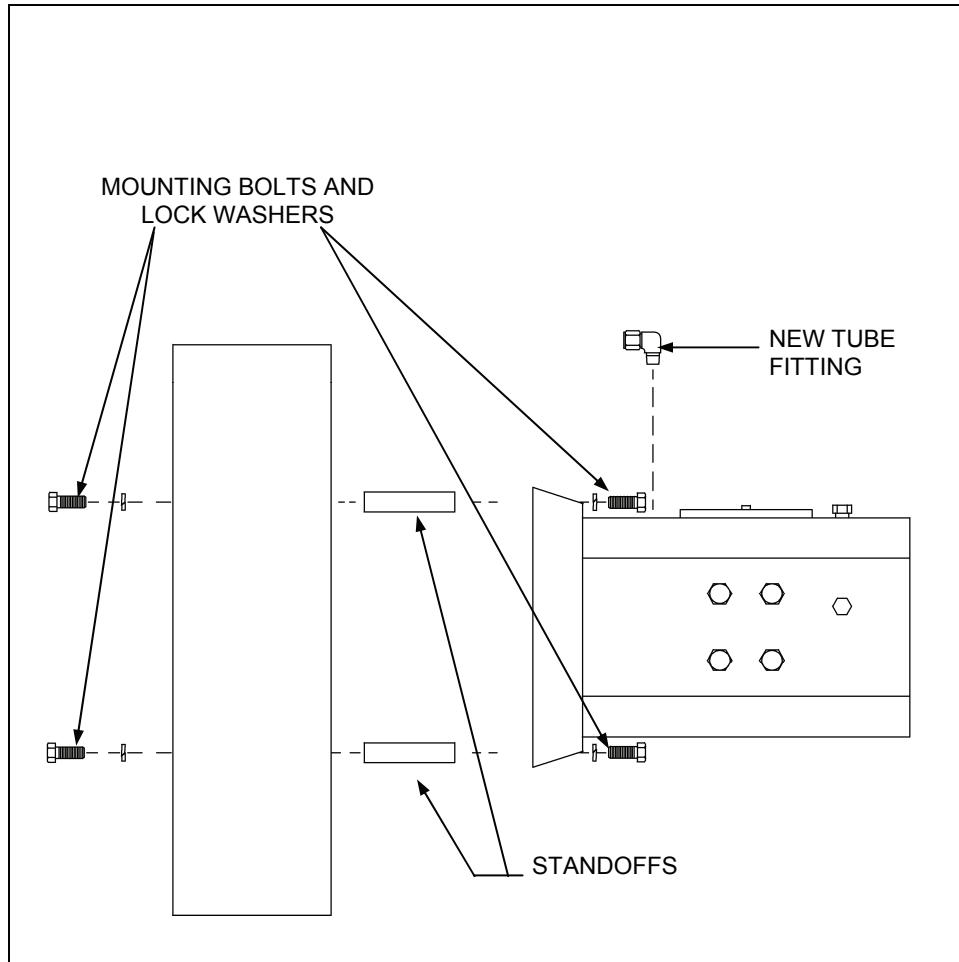

Figure 3: Installing New Control
1. Using 4 of the 8 mounting bolts and lock washers, install the four standoffs to the mounting bracket. Do not tighten the bolts. (See Figure 3)
4. Install new Swagelok® fittings in the hand pump (or optional speed control valves), tee fitting above the isolation valves and the actuator upper head. Apply an appropriate pipe sealant to the threads. (See Figures 3 and 4)